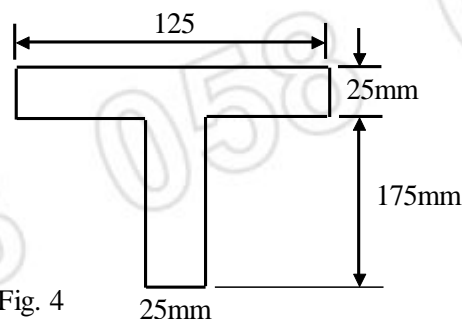

Fig. 4
6. A simply supported beam carries a udl of 30kN/m over a span of 1.0m. The cross-section of beam is a T section having dimensions as shown in fig. 4. Calculate the maximum shear stress for the section of the beam.